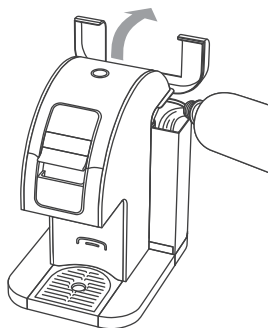

Fig. 14
1. Open the Water Tank Lid and pour water directly into the Water Tank up to the MAX Fill Line while the Water Tank is still attached to the brewer. (Fig. 14) After the Water Tank is filled with water, close the Lid.